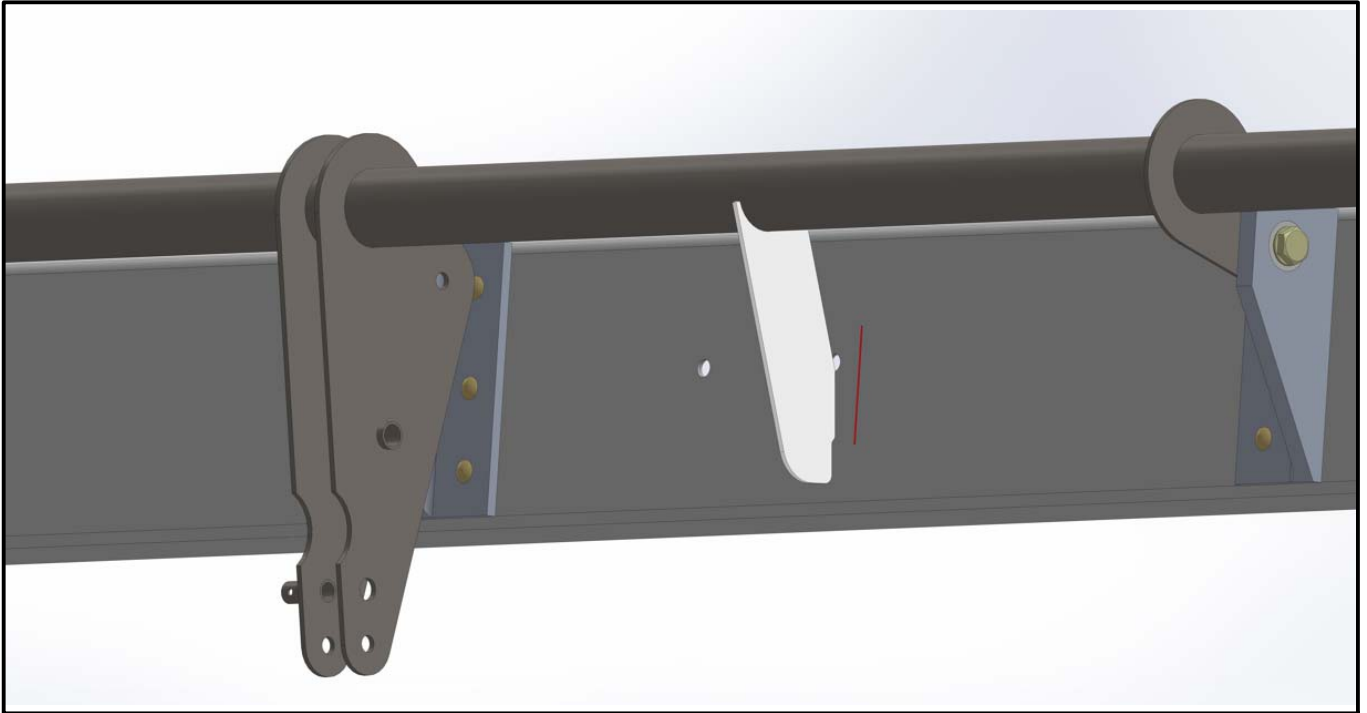

Figure SIM20-142-06 - FLAPS LANDING POSITION
- 1.8. Disconnect the flap actuator rod. (Refer to Figure SIM20-142-06.)